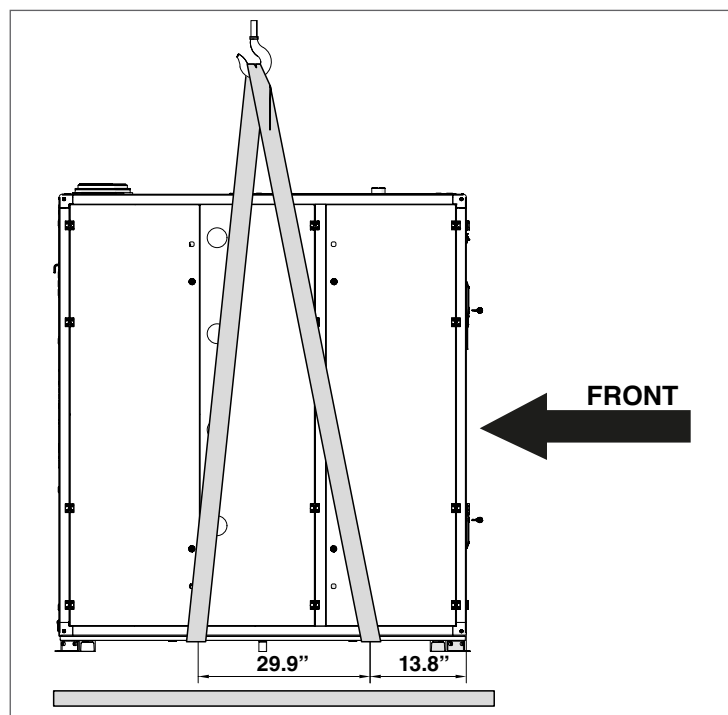

Fig. 5 Array AR 3000 and AR 4000 Crane Lifting Handling
**⚠ WARNING:** When lifting the boiler with crane: use bands or straps, no chains. Bands must comply with federal, state and local rules. The bands must be positioned as shown in Fig. 5.